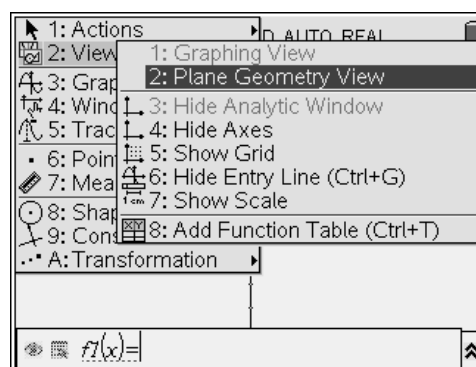

Figure 2
2. Next we will explore the volume of the bale as it changes dynamically with the diameter. Add a geometry page by pressing $\text{2nd} + \text{F5}$ and choosing 2:Graphs & Geometry. Hide the axes by pressing $\text{menu} + \text{2} + \text{2}$ for Menu, 2:View, 2:Plane Geometry View. (Figure 2)